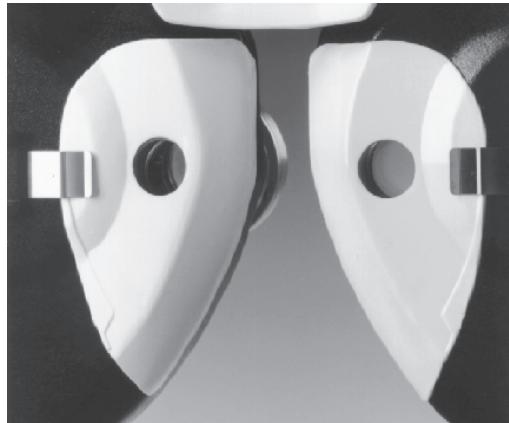

Figure SU-2 Face Shields
1. Each Face Shield is held in place by a Spring Clip. Attach by sliding the edge of the Face Shield under the clip matching the position of the shield aperture to the main aperture of the Phoroptor. Refer to Figure SU-2.